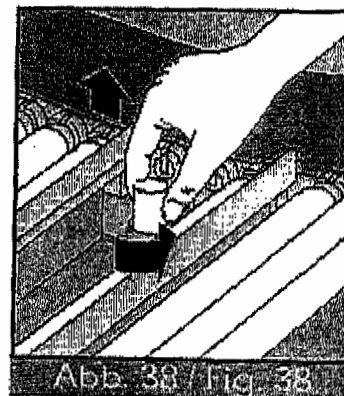

Abb. 38 / Fig. 38
- Turn the starter a little to the left and then remove it from the socket. (see Fig. 38)